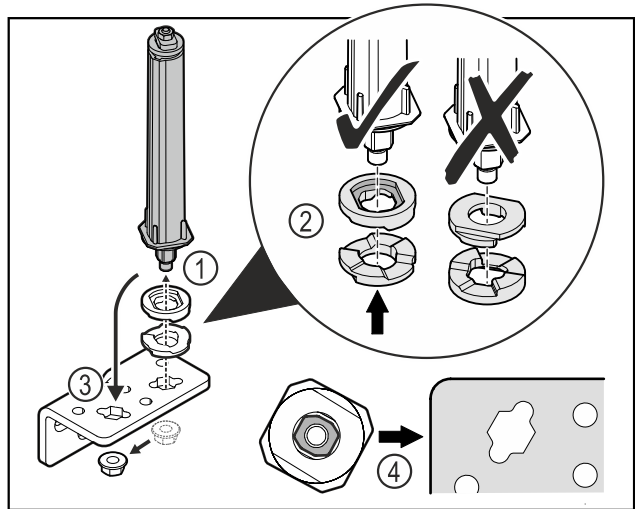

Fig. 37
- Loosen the nut and remove the door closing system Fig. 37 (1).
- Observe the correct alignment of the height adjustment washers Fig. 37 (2).
- Put the door closing system in the hinge and fix in place with the nut Fig. 37 (3).
- Observe the correct alignment of the door closing system when doing so Fig. 37 (4).